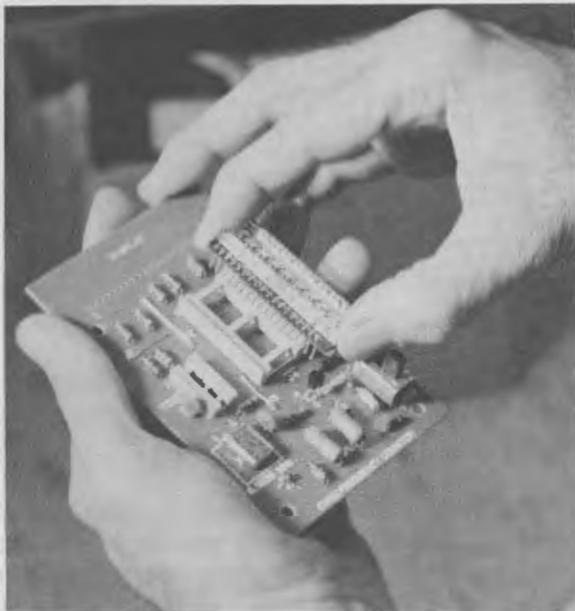

Fig. 6. Using the display connector pins to exercise the 28-pin socket.
(6) There are 14 pins on each side of the connector, so when you insert the pins of the display connector into the socket, four of the pins will *not* go into the socket. Insert and remove the display connector from the IC socket as shown in Fig. 6. Do this several times on each side of the socket ()